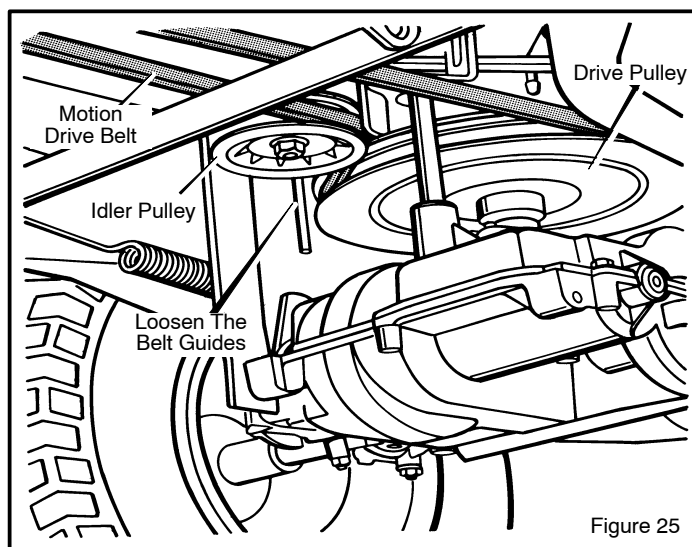
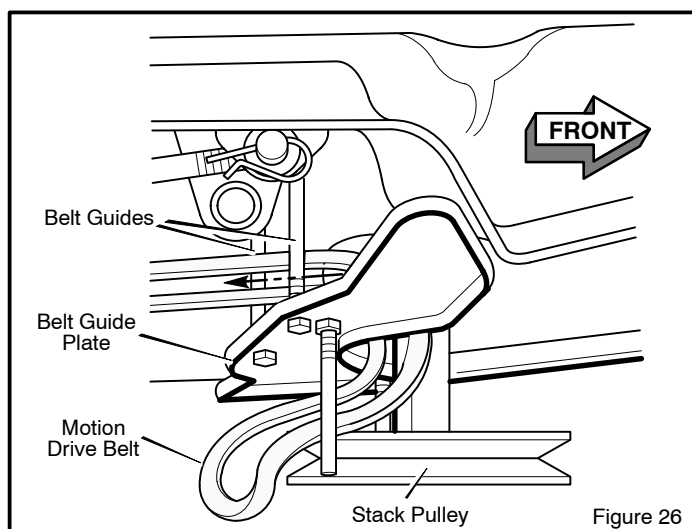

Figure 25
Figure 26
3. Remove the **idler pulley** (Figure 25).
6. To remove the **motion drive belt** from the **stack pulley**, pull the front end of the belt under the **stack pulley** and then back between the stack pulley and the **belt guide plate** (Figure 26).
1. Slide the **motion drive belt** between the **stack pulley** and the **belt guide plate** (Figure 26). Install the **motion drive belt** on the top pulley of the **stack pulley**. Make sure the “V” side of the belt is against the pulley.
3. Install the end of the **motion drive belt** around the **drive pulley** (Figure 25).
6. Make sure the **motion drive belt** is inside all the **belt guides** (Figure 25 and Figure 26).